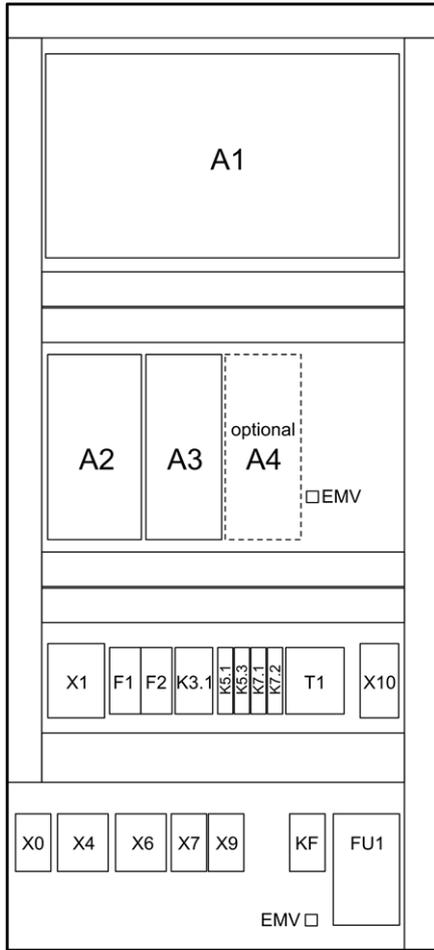

Abb. 2-52
- Connection in boiler control cabinet, terminal block X0, > Abb. 2-52, > 34